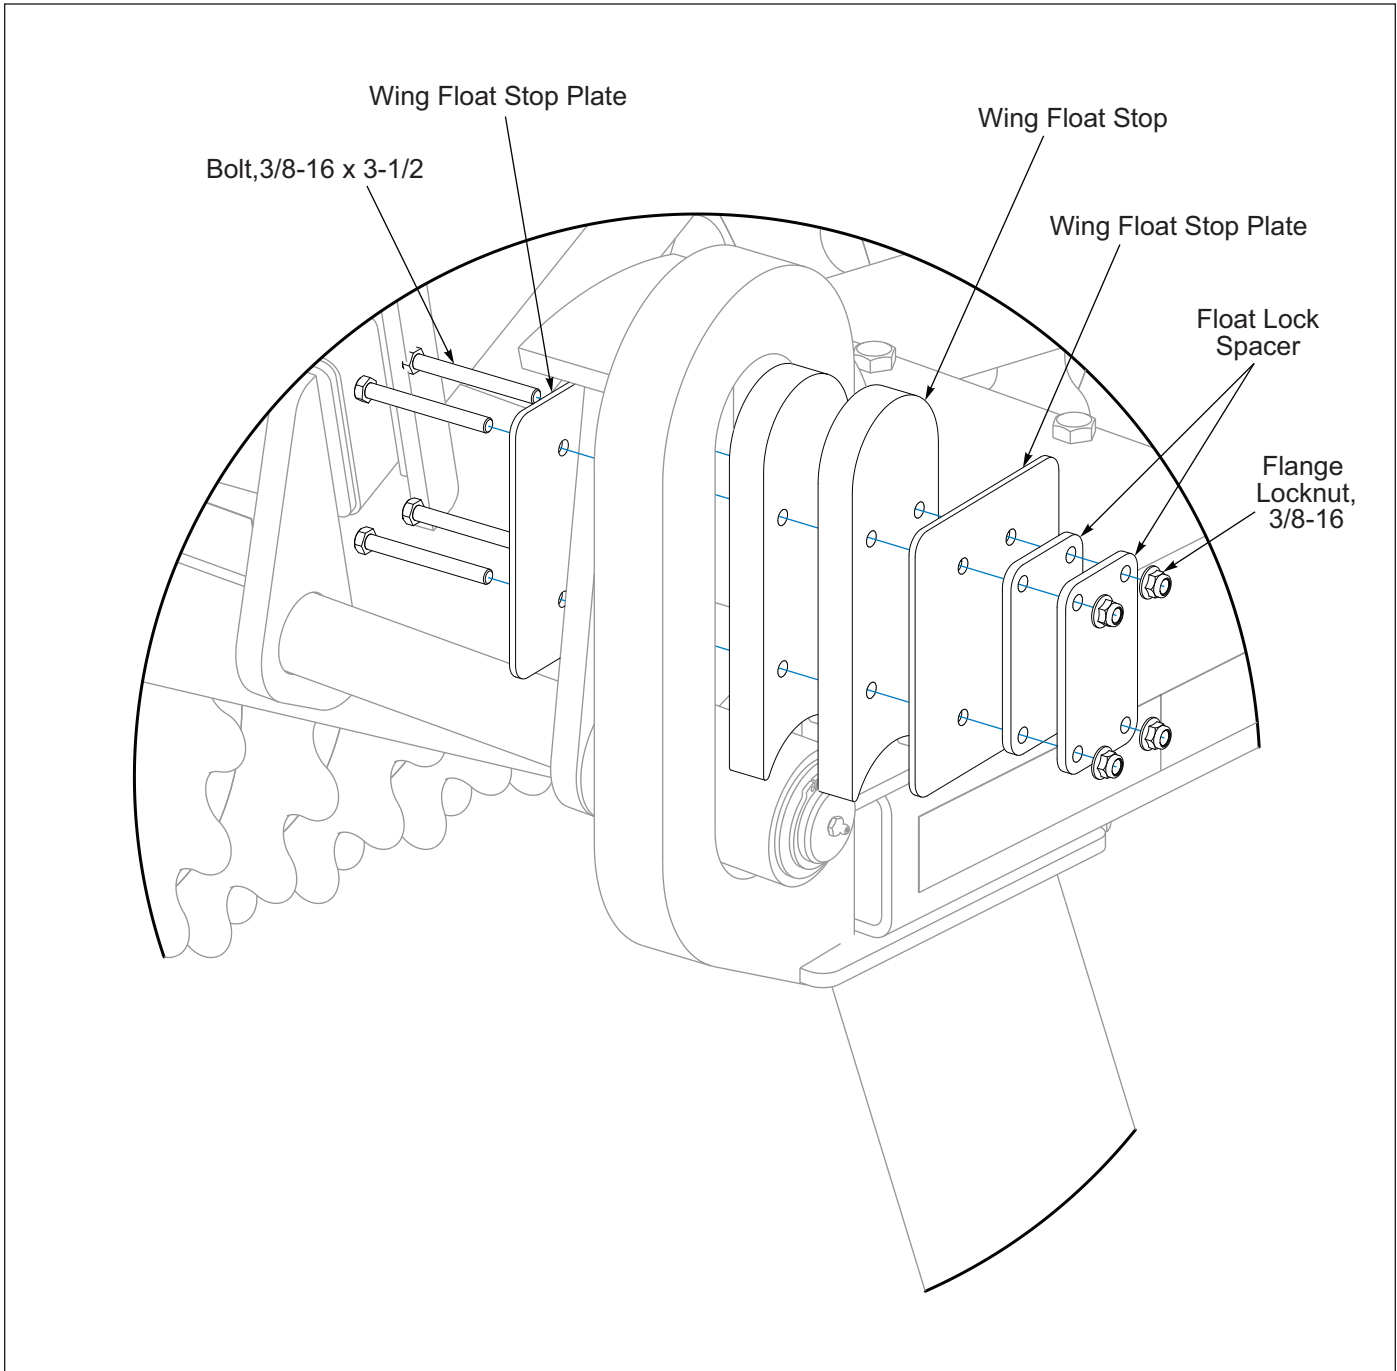

Figure 2-29: Float Lock Kit - Optional
1. Place Wing Float Stops into the Center Frame Yoke/Guide. **See Figure 2-29.**